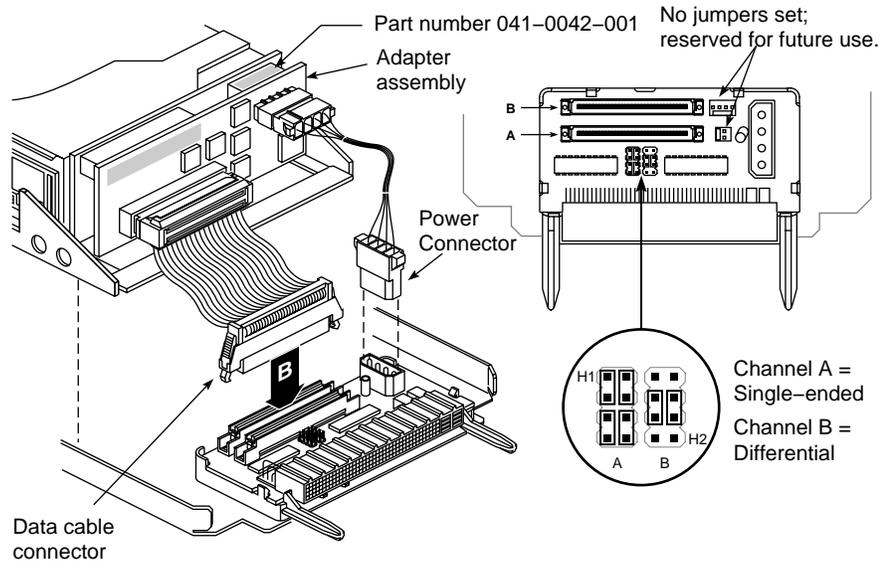

Figure 4-1 Channel Adapter Settings (Different Channel Configurations)
2. Each FLD is shipped with a drive sled channel adapter that must be configured to match the attached drive. Then the FLD must be installed in a SCSI channel of the same configuration as the drive and the channel adapter. Ensure that your channel adapter configuration matches the configuration of your drive. Possible channel configurations are shown in Figure 4-1 and Figure 4-2.
To select the SCSI channel to which the FLD will be attached, insert the free end of the ribbon cable, coming from the drive, into the connector on the drive sled channel adapter that corresponds to the selected channel (see Figure 4-1 and Figure 4-2).